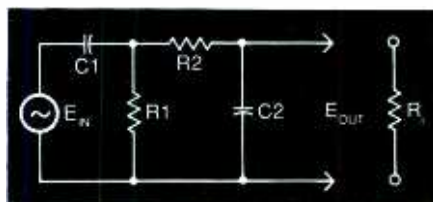
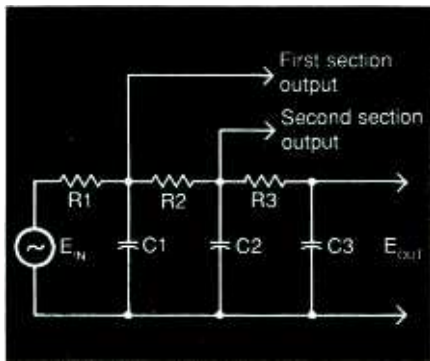

Fig. 4. A basis RC high-pass filter configuration.
Fig. 6. A basic three-section RC low-pass filter configuration.
Consider now the next basic bandpass-filter arrangement shown in Fig. 4. This circuit configuration is made up of a high-pass RC filter section followed by a low-pass RC section. Its passband between the half-power (-3 -dB) frequency points is determined by the values of resistance (R) and capacitance (C) used to make the filter. Its passband is also affected by the value of load resistance RL , which may represent the input impedance of a driven device
It is helpful to consider the sweep-frequency waveforms for the basic three-section RC low-pass filter arrangement shown schematically in Fig. 6. This circuit provides outputs from the first, second and third sections. Typical component values are: $R1 = 1,000$ ohms, $C1 = 0.01$ microfarad, $R2 = 10,000$ ohms, $C2 = 0.01$ microfarad, $R3 = 100,000$ ohms and $C3 = 0.001$ microfarad. Any two of the output waveforms can be simultaneously displayed on the screen of a dual-trace oscilloscope, or all three waveforms can be displayed simultaneously if you are fortunate enough
Figure 7 illustrates the normal frequency responses for all three Fig. 6 filter sections. Note here that the roll-off becomes more rapid following each section. Also note that if two or three low-pass sections are utilized in the Fig. 4 circuit, the resulting high-frequency rolloff would be more rapid than that shown in Fig. 5. Roll-off is measured in terms of decibels (dB) per octave or dB per decade. An octave is defined as a doubling in frequency, a decade as an increase of one magnitude (10 times) in frequency.
Practical troubleshooting procedures are usually more concerned with qualitative characteristics than with quantitative characteristics of waveforms. Accordingly, you should become familiar with some of the features illustrated by the waveforms in Fig. 8. In the event that $C1$ in the Fig. 6 circuit becomes open, the first filter section exhibits a very slow roll-off when compared with the rolloff rate shown in Fig. 7. In the event that $C2$ in the Fig. 6 circuit becomes open, you will apparently observe two curves displayed, although all three curves will actually be on the screen. The reason why one curve will effectively be "dropped" from the displayed group is as follows.
Inspection of the Fig. 6 circuit will reveal that when $C2$ is open, there is only resistive voltage-division action present between the output of the first and third filter sections. Accordingly, if $R2$ has a comparatively low value of resistance, the waveform at the output of the second filter section will be practically the same as the waveform at the output of the first section. Alternatively, if $R3$ has a comparatively low value, the waveform at the output of the second filter section will be practically the same as the waveform at the output of the third section. For component values given above, $R2$ would have a comparatively low value, with the result that the waveform at the output
With the above analytical approach in mind, it is evident that if C3 becomes open in the Fig. 6 circuit, only two waveforms will appear to be displayed on the scope's screen even though all three output waveforms are being traced. This situation results from the fact that when C3 is open there is no wave-shaping element present between the output from the second filter section and the scope's input terminal. Accordingly, the output from the third filter section effectively merges with the output waveform from the second section. These are operative points for you to bear in mind when checking out three-section filters.
Fig. 8. Abnormal sweep-frequency response for basic three-section RC low-pass filter with C1 in Fig. 6 open: (A) first-section, (B) second-section, and (C) third-section outputs.